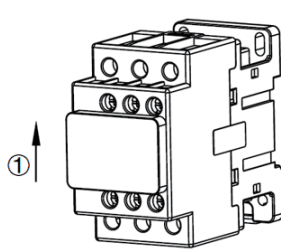

Fig. 3 Installation method of F3 top-hung aux., FY3 air delay head
9.2 The installation and disassembly methods of the top mounted accessories (F3 top-hung aux., FY3 air delay head) see Fig. 3 and Fig. 4: